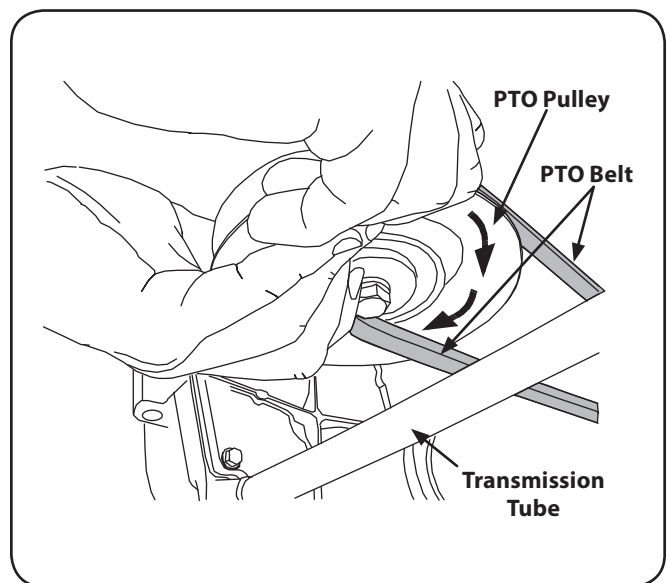

Figure 7-5
- While still holding the belt downward, continue turning the PTO pulley until the belt rolls off the pulley. Refer to Figure 7-5.
- Pull the right side of the belt rearward and place the narrow V side of the belt into the PTO pulley. See Figure 7-5.
- While holding the belt and pulley together, rotate the pulley to the left (See Figure 7-5). Continue holding and rotating the pulley and belt until the belt is fully rolled into the PTO pulley.